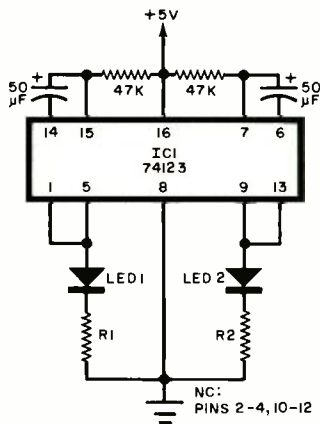

Fig. 1. Dual LED flasher circuit. Several of these can be cascaded for sequential flashing.
**Readers' Circuits.** If reader response is any criteria, LED flasher circuits continue to be very popular with experimenters and hobbyists. Among recent contributions is the dual flasher circuit in Fig. 1. Submitted by Ferdi Baler (1551 A. Day Ave., San Mateo CA 94403), the circuit features a type 74123 TTL dual monostable multivibrator, IC1, and is designed for operation on a standard 5-volt dc source.